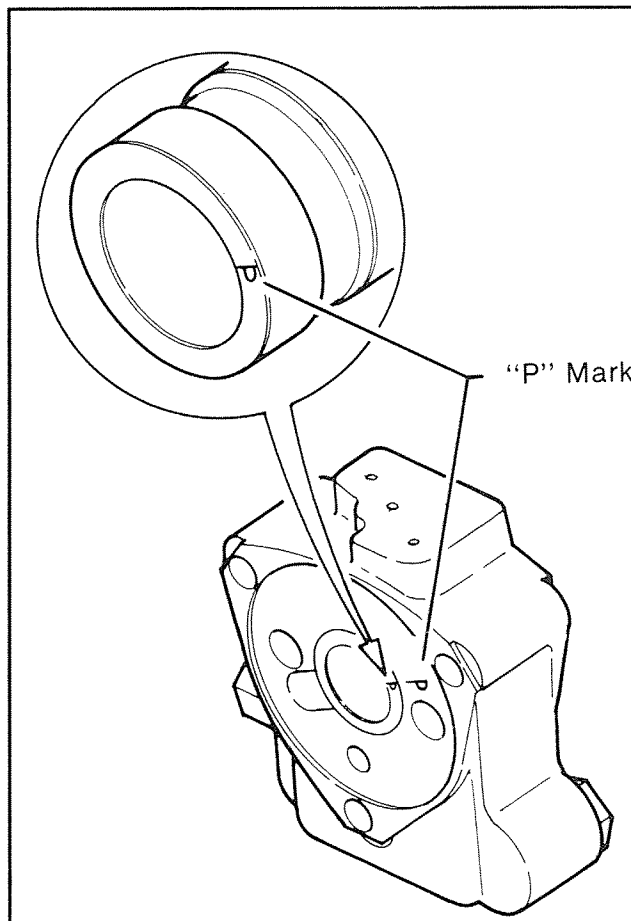

Figure 45
1. Align the "P" marks of the sleeve and spool and install the valve assembly, Figure 45.